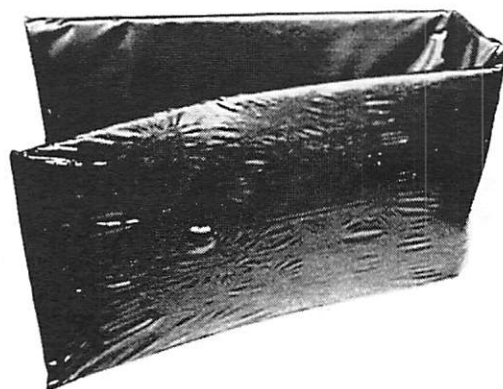

Figure 2. Sound-Absorbing Blanket
2. Sound-absorbing blanket, attached to inside of wrap-around, reduce nominal powerhead sounds. (Figure 2)